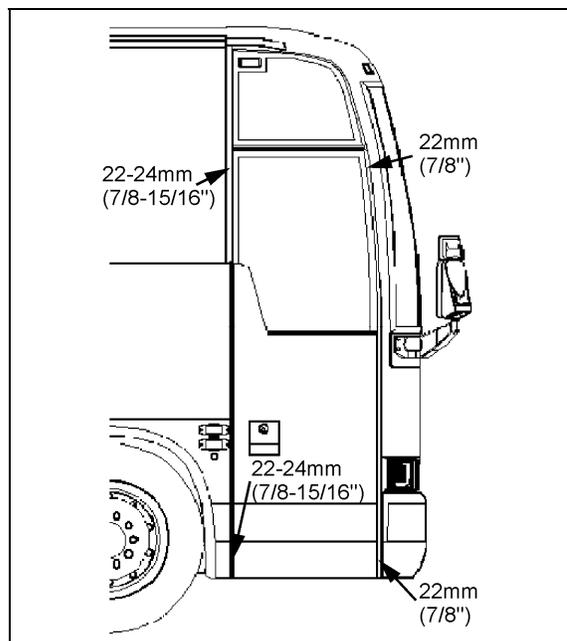

FIGURE 23: SEAL COMPRESSION ADJUSTMENT
2. From the outside of vehicle, insert a straight edge in the gap along the door outside perimeter. Measure the distance between the door frame and the door outside surface at the door four corners (refer to figure 23).
1. Close the door, from the outside of vehicle, insert a straight edge in the gap along the door outside perimeter. Measure the distance between the door frame and the door outside surface at the door four corners (refer to figure 23).